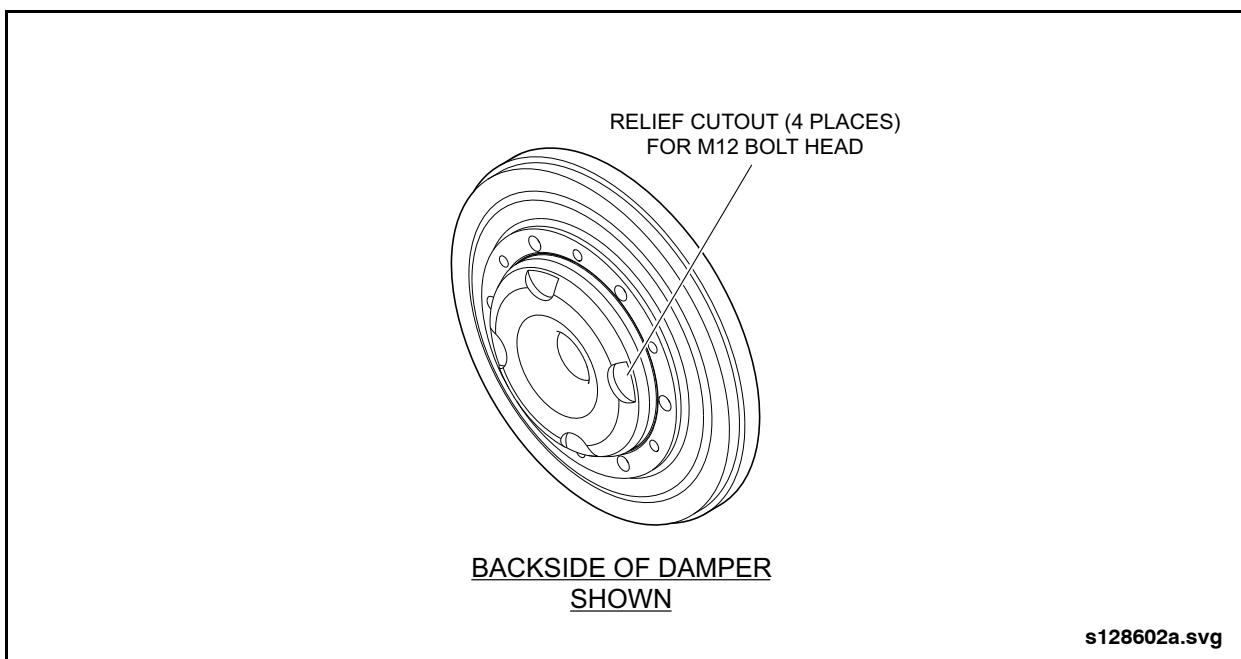

Fig. 4-7: Damper Alignment
4. Note the assembly marks previously made on the damper and adapter flange. Four relief cutouts are machined into the back-side of the damper and these reliefs must align with the four M12 bolt heads. See "Fig. 4-7: Damper Alignment" on page 10.